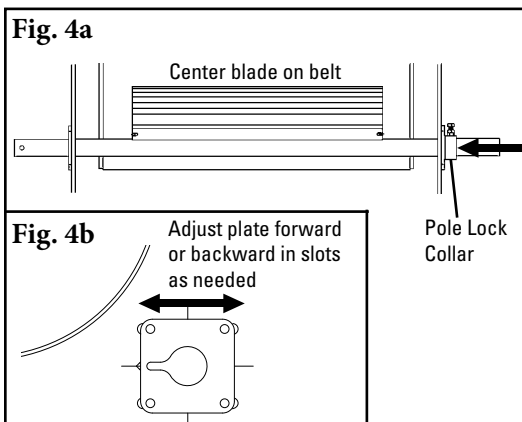

Fig. 4a
5. **Center the cleaner on the belt and lock in place.** Reinstall the blade with both blade pins. Center the blade on the belt and install the pole lock collar onto the pole (on the end opposite the end to be used for the tensioner), snugly up to the mounting plate (Fig. 4a). Rotate the blade up to the belt and check to insure that the blade is square to the pulley face. If not, loosen a mounting plate on one side and adjust the plate forward or backward to square the blade to the pulley, and retighten the bolts (Fig. 4b).